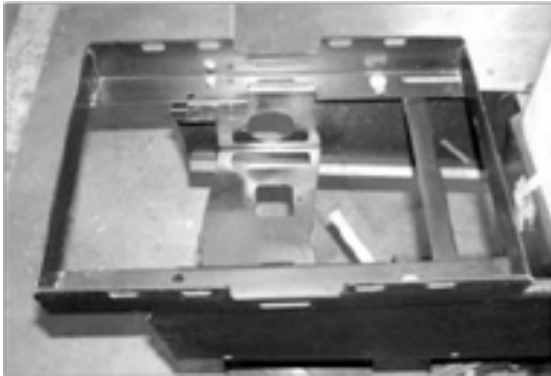

Figure 8
2. Orient SmartBox[®] cradle as shown (see Figure 8).